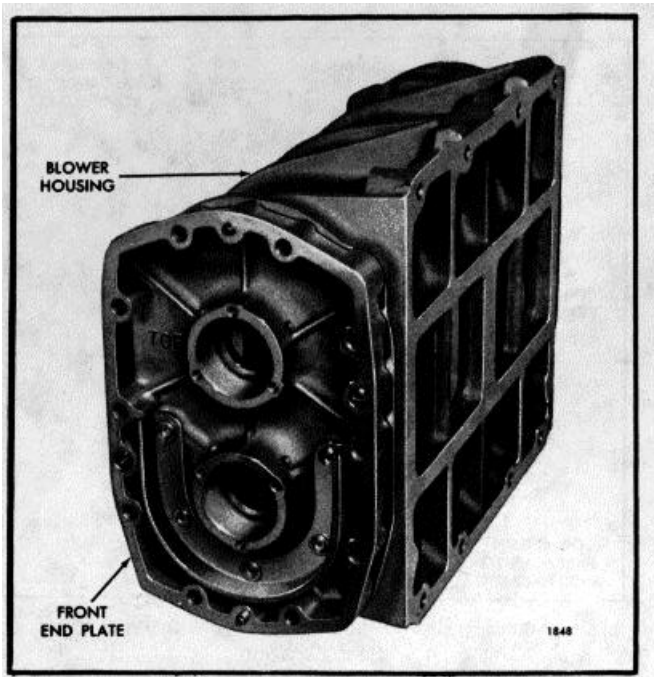

Fig. 10 - Position of Blower Front End Plate on Housing.
1. Install the blower front end plate. Make sure the mark TOP on the outer ribbed side is at the top of the blower housing, identified by the flange which supports the housing on the top edge of the cylinder block (Fig. 10).